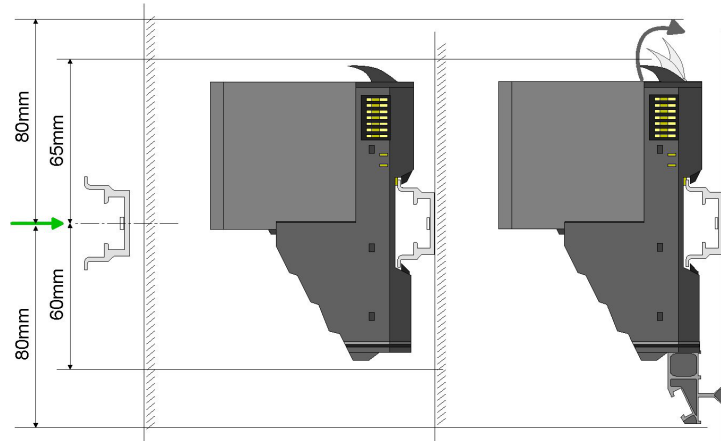

Fig. 5-5: Installation distances
- Install the DIN rail with the necessary distances (see Fig. 5-5: "Installation distances").